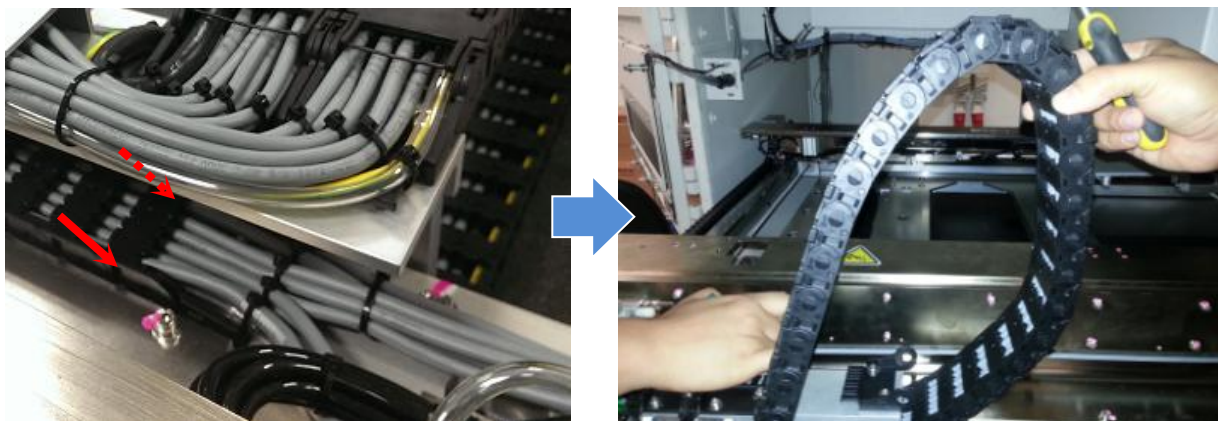

Figure 14 X Axis End Joint Removal
18. Use flat head screwdriver to open V810 XXL X-AXIS E-CHAIN (P/N, 4LAXYS-A141) end joint (top and bottom) as below Figure 14